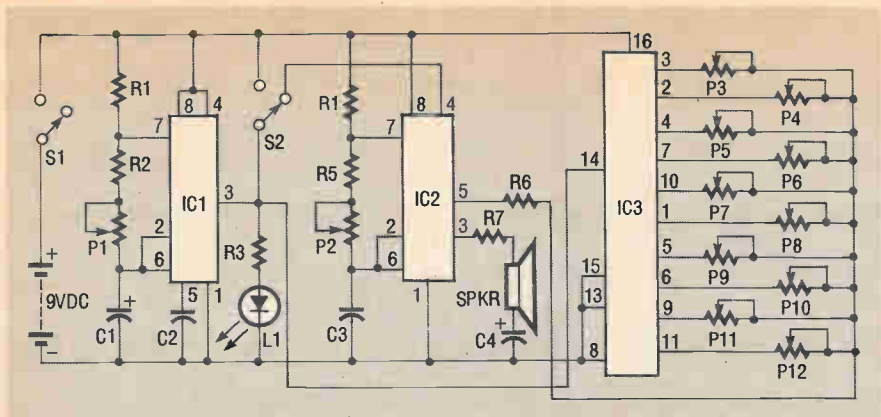
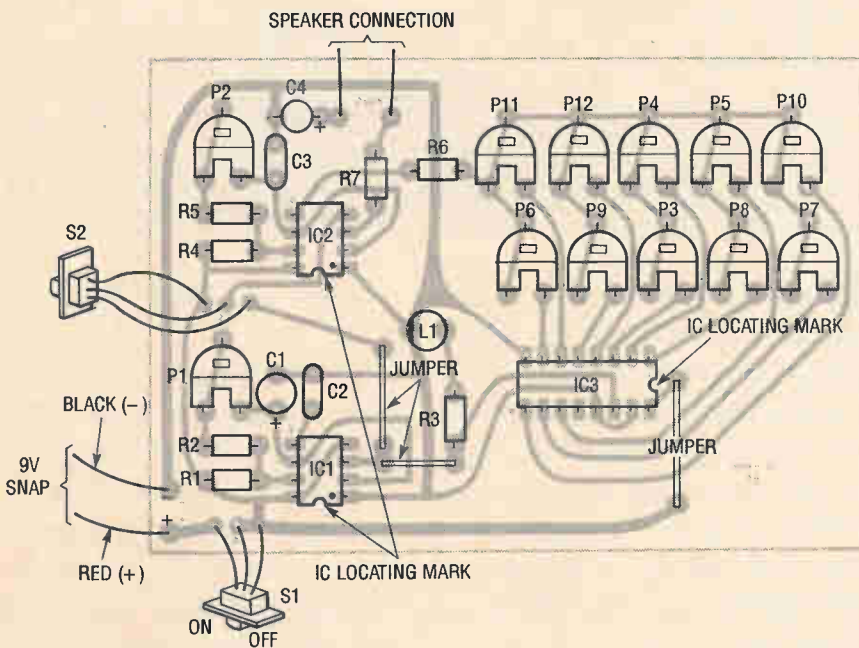

Figure 1. The schematic of the 10-note sound synthesizer, which is built around two 555 timers and a 14017 divide-by-10 counter (IC3).
Figure 2. Follow the parts placement diagram carefully.
As you can see in the schematic (Figure 1), three IC's are used to produce the computer and robot sounds. IC1 is a 555 timer that is used to generate clock pulses. It is configured here as an astable multivibrator. The frequency of the clock pulses is set by trimmer potentiometer P1, a variable resistor. Those clock pulses are coupled to the input of IC3 (a 4017 CMOS Johnson
1. Follow the schematic (Figure 1) and the parts-placement diagram shown in Figure 2, and refer to the Parts List as needed. Be sure to use only 60/40 rosin-core solder -- do not use acid-core solder!
2. Install all resistors, and then the capacitors. Don't forget to observe the polarity of the capacitors when indicated. Orient the IC's as shown in the Figure 2, using the locating marks to place them correctly. Depending on the type of IC, the locating mark will either be a notch on the lower-left side, or a small dot on lower-left corner, or possibly both. The LED should be installed with the flat side (cathode) as shown in Figure 2.
3. You can use left-over pieces of leads, cut from resistors, to install the jumpers in three places, as shown in Figure 2.